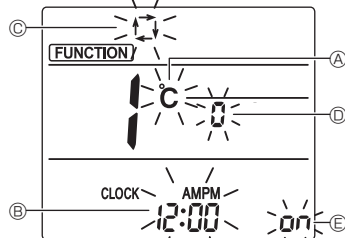

Fig. 6-6
3. Check that function No. "1" is displayed, and then press the **SET** button ③.
- The Screen display setting screen will be displayed. (Fig. 6-6)
- Press the **UP** button ④ to change the function No.
6.8.2. Changing the temperature unit (Fig. 6-6 A)
- Press the **TEMP** button ⑤.
- Each time the **TEMP** button ⑤ is pressed, the setting switches between **C** and **F**.
6.8.3. Changing the time display (Fig. 6-6 B)
- Press the **TIME** button ⑥.
- Each time the **TIME** button ⑥ is pressed, the setting switches between **12:00** and **24:00**.
6.8.4. Changing the AUTO mode (Fig. 6-6 C)
- Press the **MODE** button ⑦.
- Each time the **MODE** button ⑦ is pressed, the setting switches between **1** and **2**.
6.8.5. Changing the pair No. (Fig. 6-6 D)
- Press the **UP** button ④.
- Each time the **UP** button ④ is pressed, the pair No. 0-3 changes.